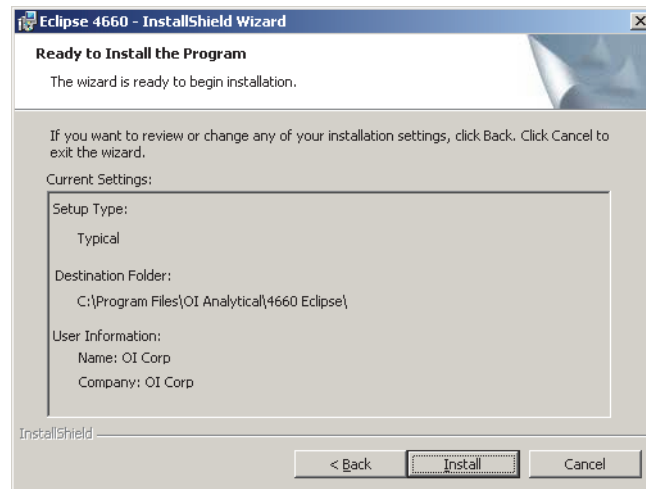

Figure 3.17. Ready to Install screen
- After reviewing the settings in the Ready to Install dialog box (Figure 3.17), click **Install**.